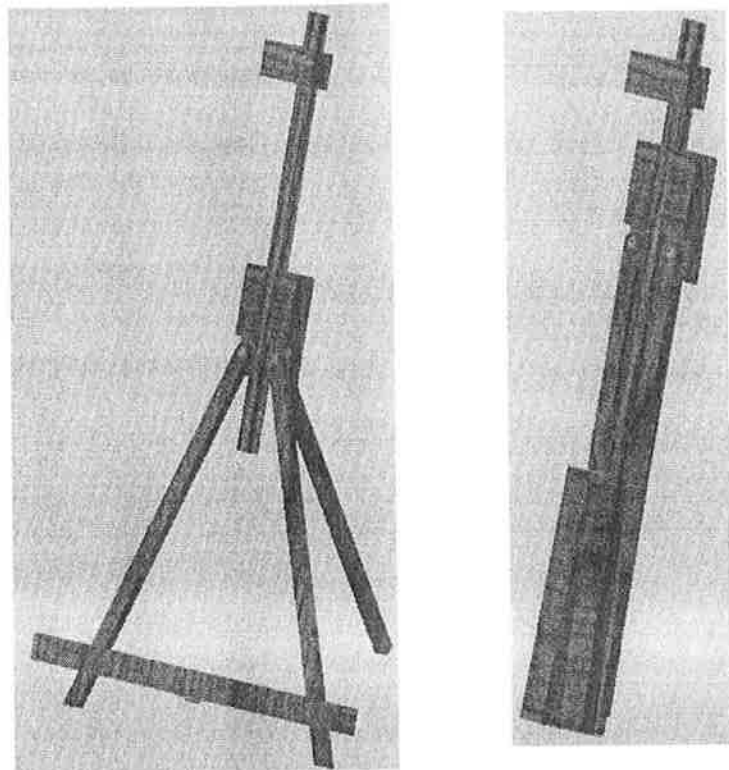

Figure 16–40
4. Click **OK** and test the motion by dragging the components to their expanded and collapsed positions, as shown in Figure 16–40.